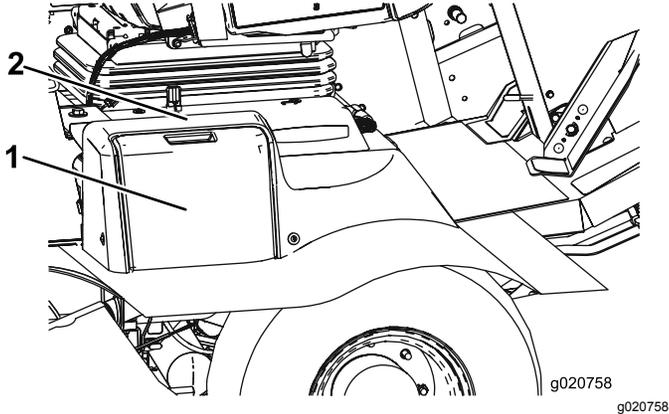

Figure 77
1. Open the battery cover on the side of the shroud (Figure 77).
Note: Press down on the flat surface above the battery cover to ease the removal of the cover (Figure 77).